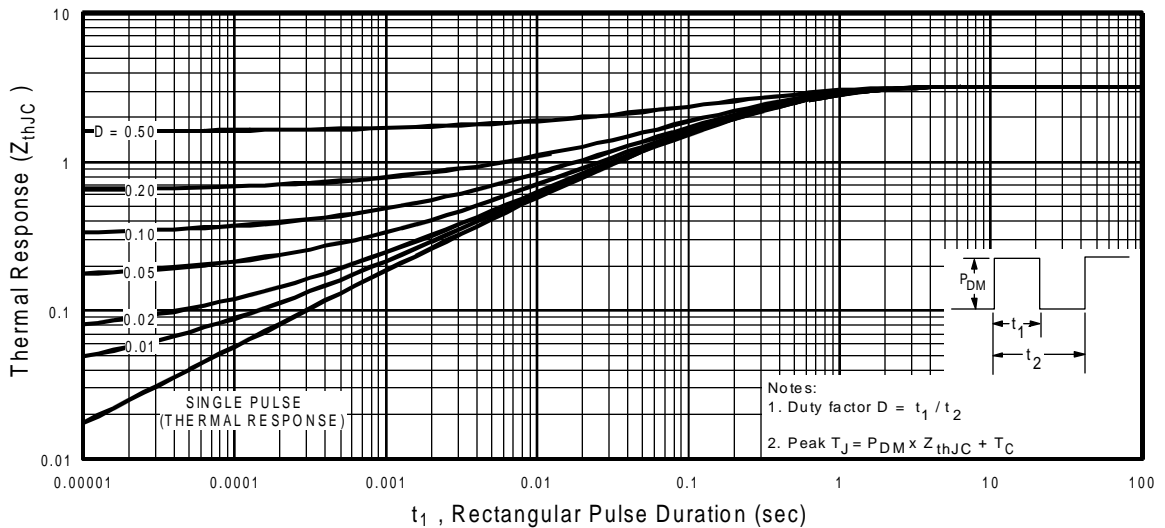

Fig 11. Maximum Effective Transient Thermal Impedance, Junction-to-Case
- ① Repetitive rating; pulse width limited by max. junction temperature. (See fig. 11)
- ② V_{DD} = 15V, starting T_J = 25°C, L = 220μH